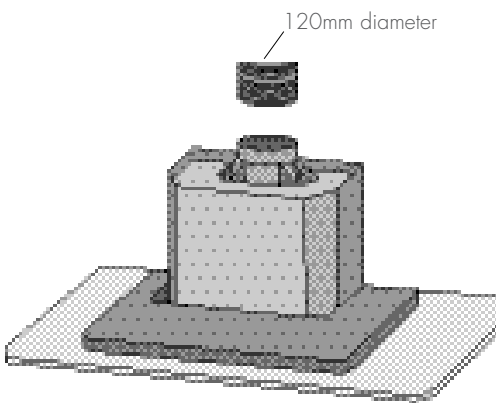

Fig. 8
6. **Ducted mode** (Fig. 8). In this mode fumes are extracted to the outside via a hose connected to the coupling ring. In order to obtain the best performance the hose should have a diameter equal to the outlet hole. The canopy rangehood has been supplied with flexible exhaust pipe and duct transition piece, alternatively a 120mm diameter non-combustible flue pipe can be used. Continue the centre line to the ceiling. Attach the ceiling mount bracket on the centre line. Fit preferred flue pipe to the fan transition duct.